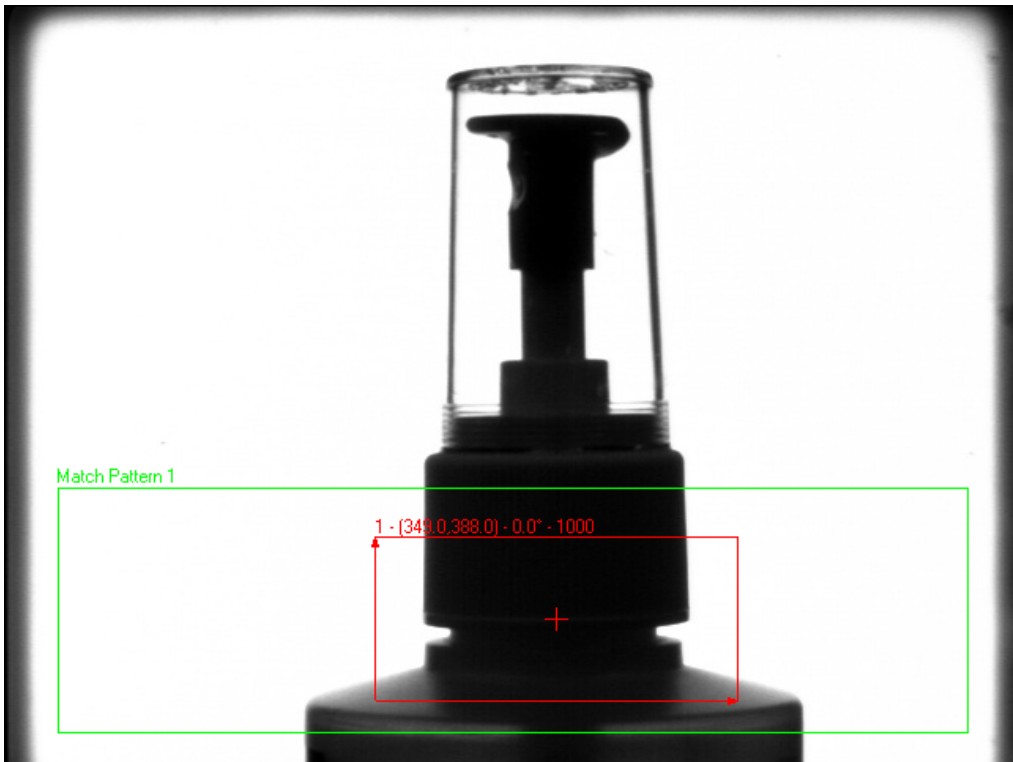

Figure 2-2. Limiting the Search Region
6. Redraw or decrease the default green region of interest so that it surrounds only the lower portion of the image, as shown in Figure 2-2.